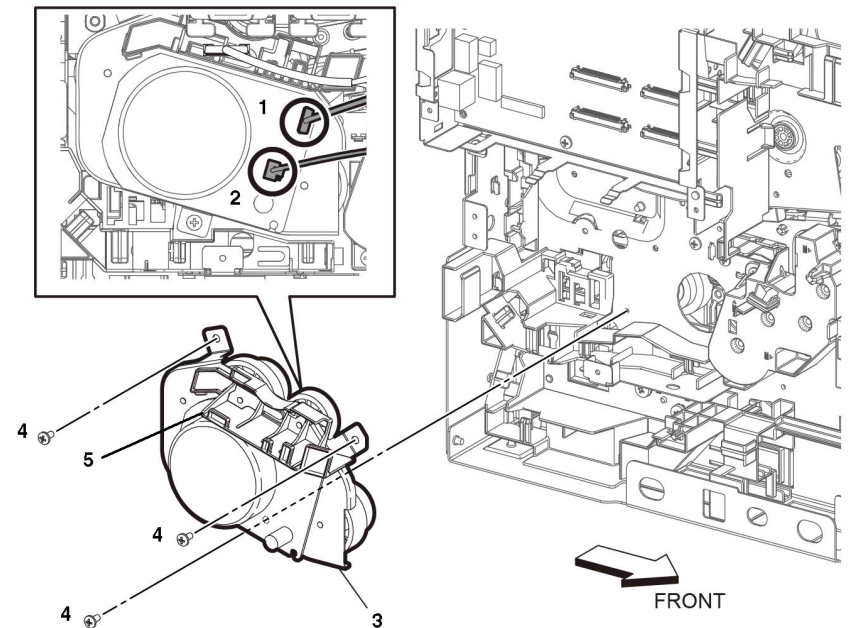

Figure 1 Drive 2 motor assembly removal
10. Remove the main 2 drive assembly, Figure 1:
- a. Disconnect P/J560 (1) and P/J561 (2) from the drive 2 motor assembly (3).
- b. Remove three screws (4), then remove the drive 2 motor assembly (3) with the lower LPH color FFC guide (5) attached.